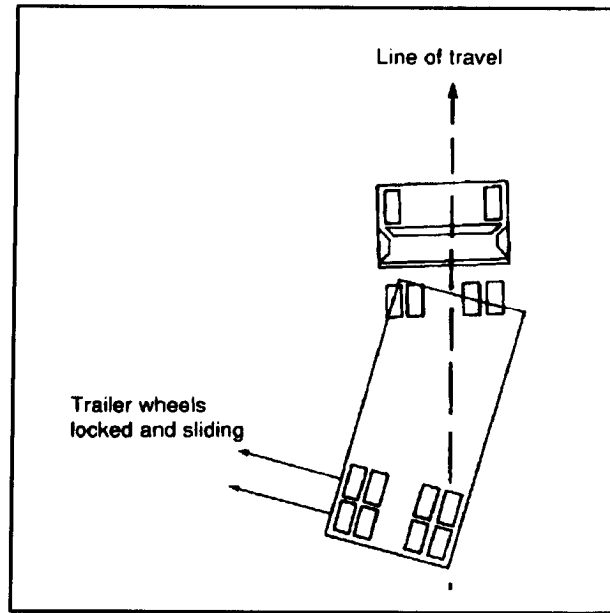

Figure 6-3. Trailer jackknife
- When a trailer's wheels lock up, the trailer will usually swing around. This is more likely to happen when the trailer is empty or lightly loaded. This type of jackknife is called a trailer jackknife. It will occur when the trailer is at a 15-degree angle in relation to the tractor (Figure 6-3, page 6-4). Do the following to stop a trailer skid: